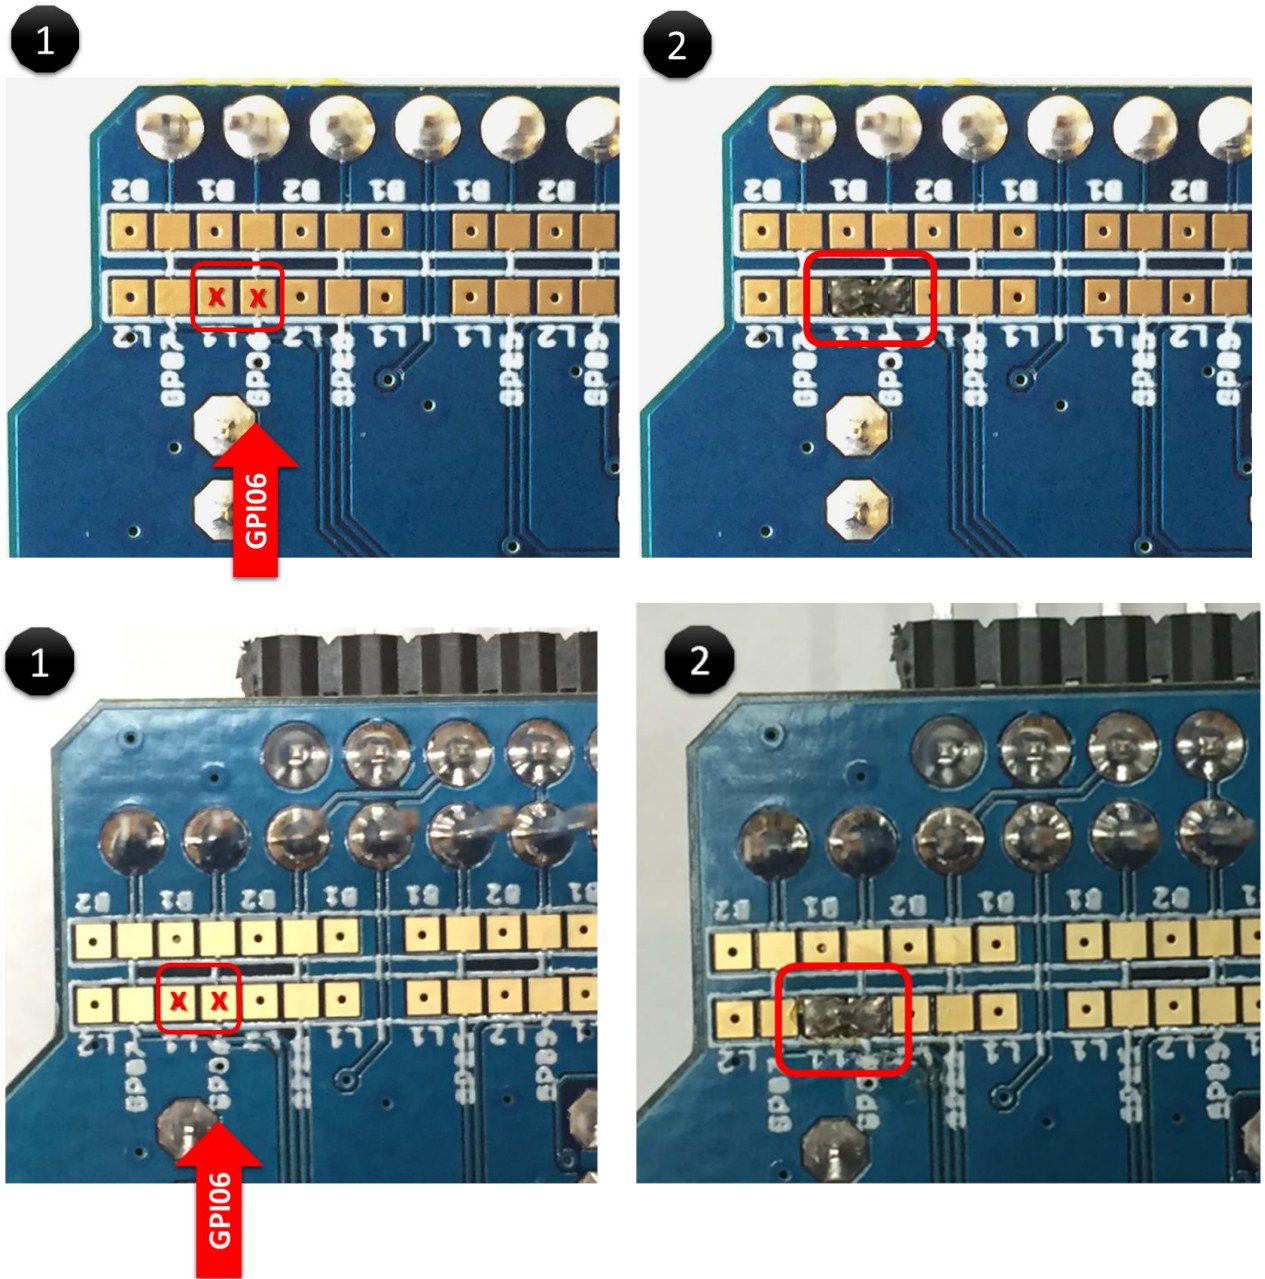

Figure 22 Connecting GPIO6 pad to LED1 (L1) pad (DVK Revision 3.0).
2. Locate the pad location marked GPIO6 near the JTAG connector as shown in Figure 22. Solder the pad labelled GPIO6 to the adjacent pad labelled L1. The pads are located close together to allow for a solder bridge to be easily formed. Ensure that only these two pads are connected.